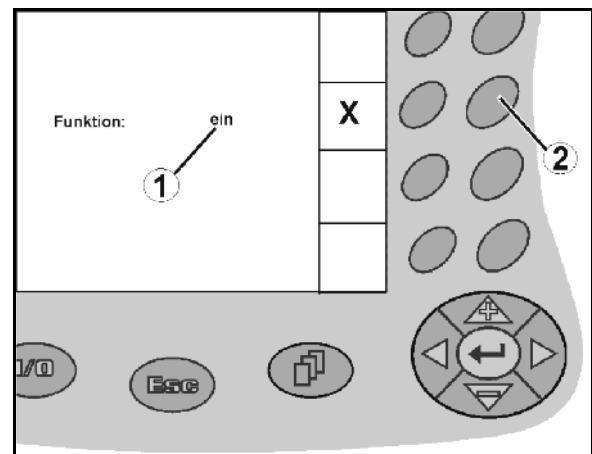

Fig. 17
- Press function key (Fig. 17/2) once
→ Function **on** (Fig. 17/1).